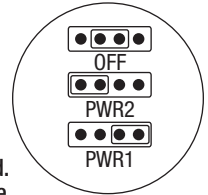

Fig. 1
- Ensure all output jumpers [OUT1] - [OUT8] are placed in the OFF (center) position (*Fig. 1, pg. 4*).
- Set each output [OUT1] - [OUT8] to route power from Input 1 or 2 (*Fig. 1, pg. 4*).